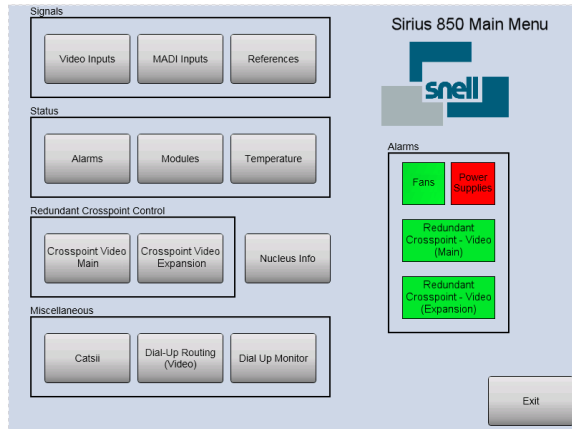

Fig 31.Live Runner Main Menu Screen
1. Live Runner should run automatically and display a screen similar to Fig 31.